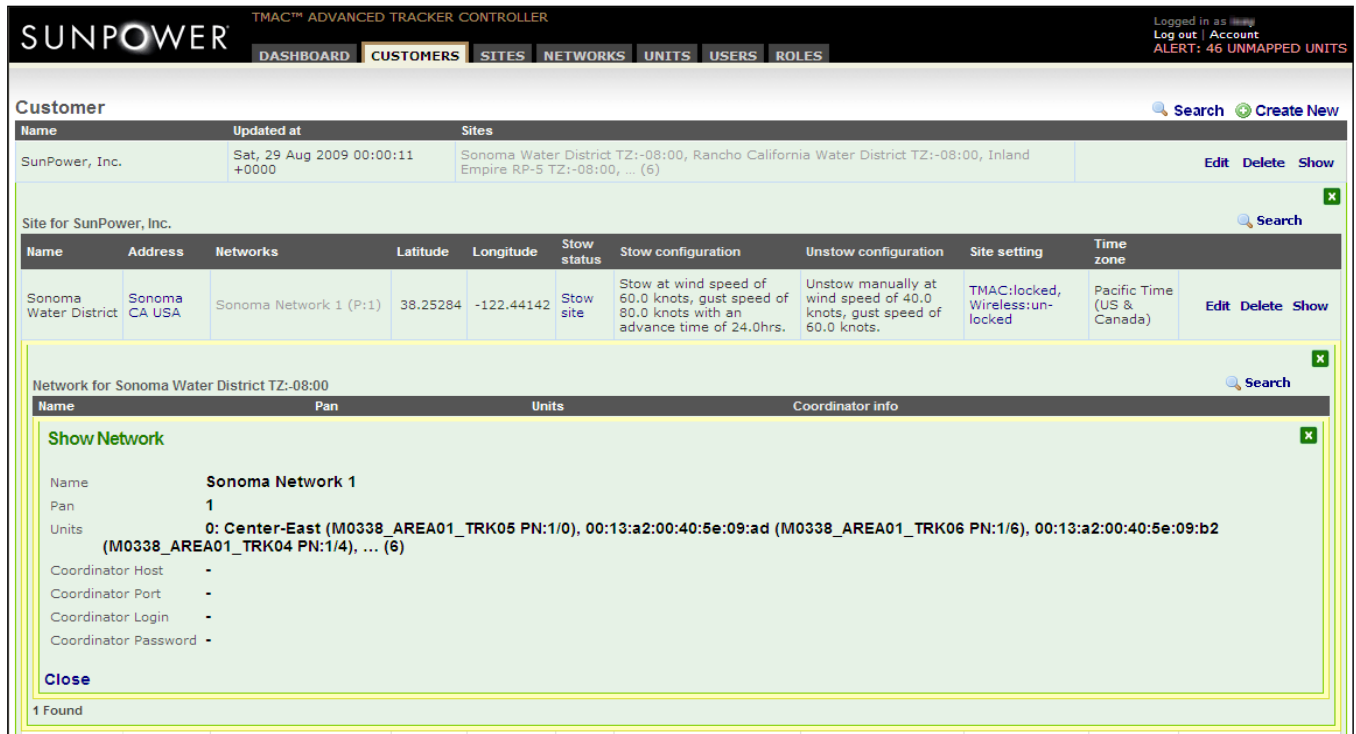

Fig. B23
4. Locate the network under the **Name** column and then click **Show** under the rightmost column. The **Show Network** window appears (Fig. B23).